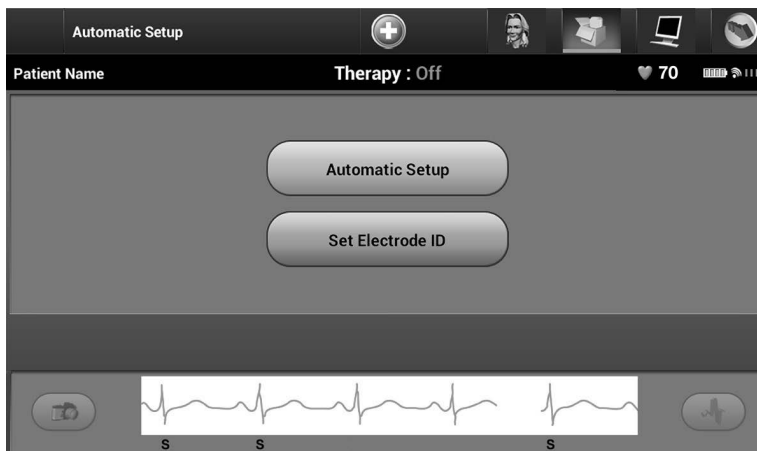

Figure 19: Select the Set Electrode ID button to enter electrode information
3. Select the Automatic Setup icon in the Navigation Bar. The Automatic Setup screen appears (Figure 19).